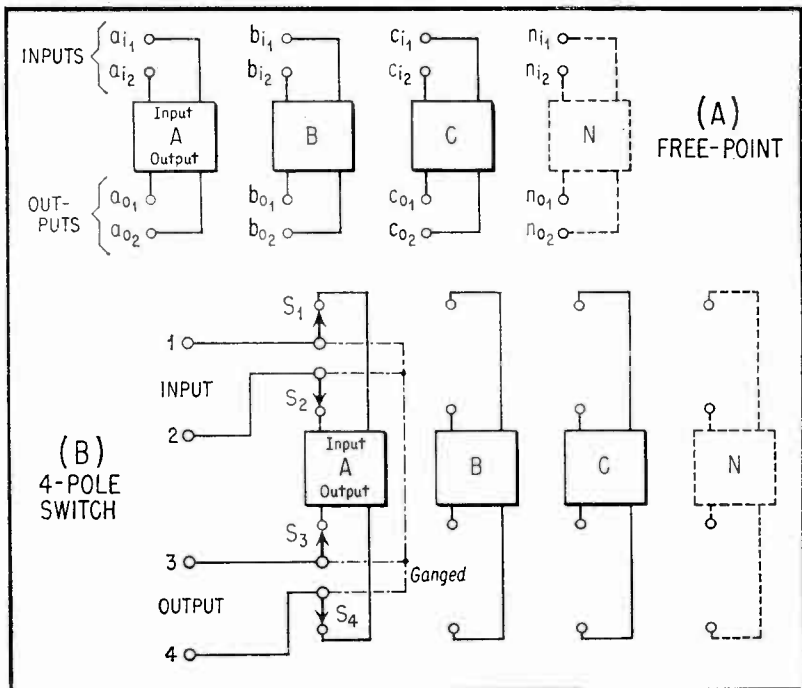

Fig. 3. 4-Terminal Configurations.
While there is little standardization as yet in the basing of transistors the usual base layouts are shown in Fig. 3.
Figure 3 shows the principal methods of connecting 4-terminal units in a substitution box. When the input and output terminals must be accessible separately, the free-point circuit of Figure 3(A) is available. The 16 required terminals are arranged in two rows on the panel. (Terminals a_{11} , and A_{12} and a_{02} to n_{01} and n_{02} for the outputs). When internal switching is permissible, the circuit of Figure 3(B) is available. Here, the 4-terminal units (A, B, C . . . N) are selected with a 4-pole switch ($S_1S_2S_3S_4$). Only four panel terminals (1 and 2 for the input; 3 and 4 for the output) are needed.
Sometimes, one input terminal (or one output terminal) of each component can be grounded. This is not true often enough, however, to justify running a common line inside the substitution box and eliminating one row of terminals in Figure 3(A) or one switch pole in Figure 3(B). Similarly, it is possible in some applications to ground one input terminal and one output terminal of a 4-terminal device such as a transformer. But it is not advisable to make permanent common connections inside a substitution box containing 4-terminal components, since this will greatly limit the flexibility of the unit. The arrangements shown in Figure 3 therefore are the simplest for this type of box.